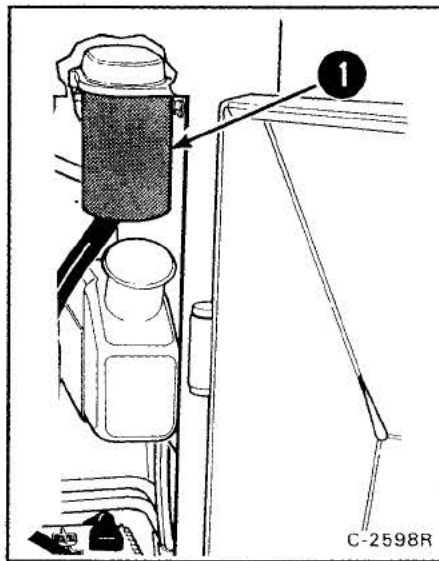

Fig. 68 Filter Element
1. Remove the filter element (Fig. 68, Item 1). Let the oil flow into a container.